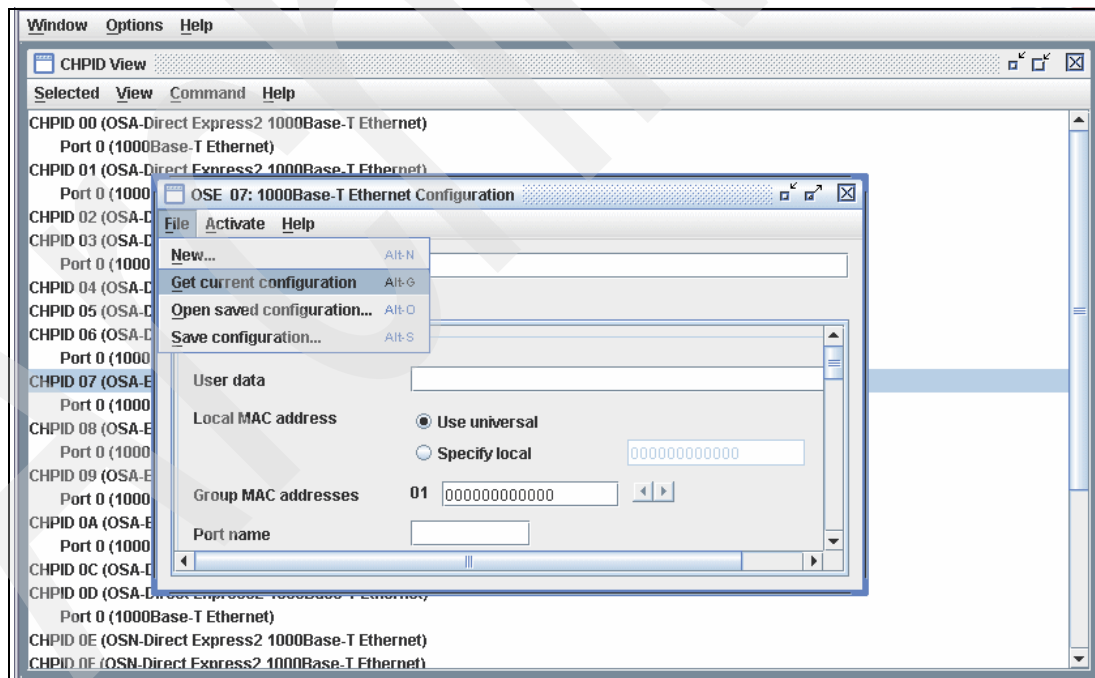

Figure 3-18 OSA/SF Workstation Interface - get current configuration
4. A CHPID configuration panel is displayed, with only blank information. From this panel, click **File** → **Get current configuration**; see Figure 3-18.